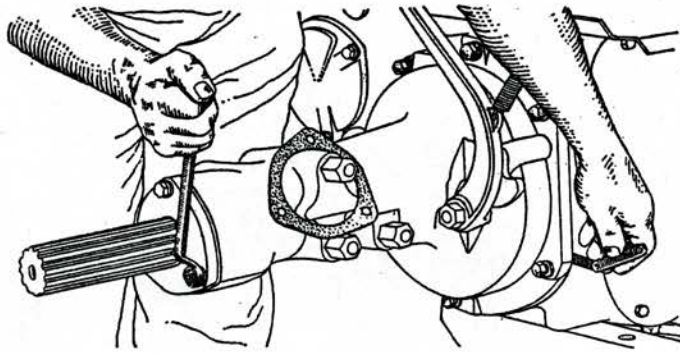

Fig. 44 Adjusting rear axle bearings. Series H
**NOTE**—If rear axle bearing shims become damaged, the approximate number required to correctly adjust the bearings can be determined by using a feeler gauge between rear axle quill and main case, Fig. 44, after rear axle outer bearing cover capscrews are drawn up tight. Recheck as directed in item 4 above.